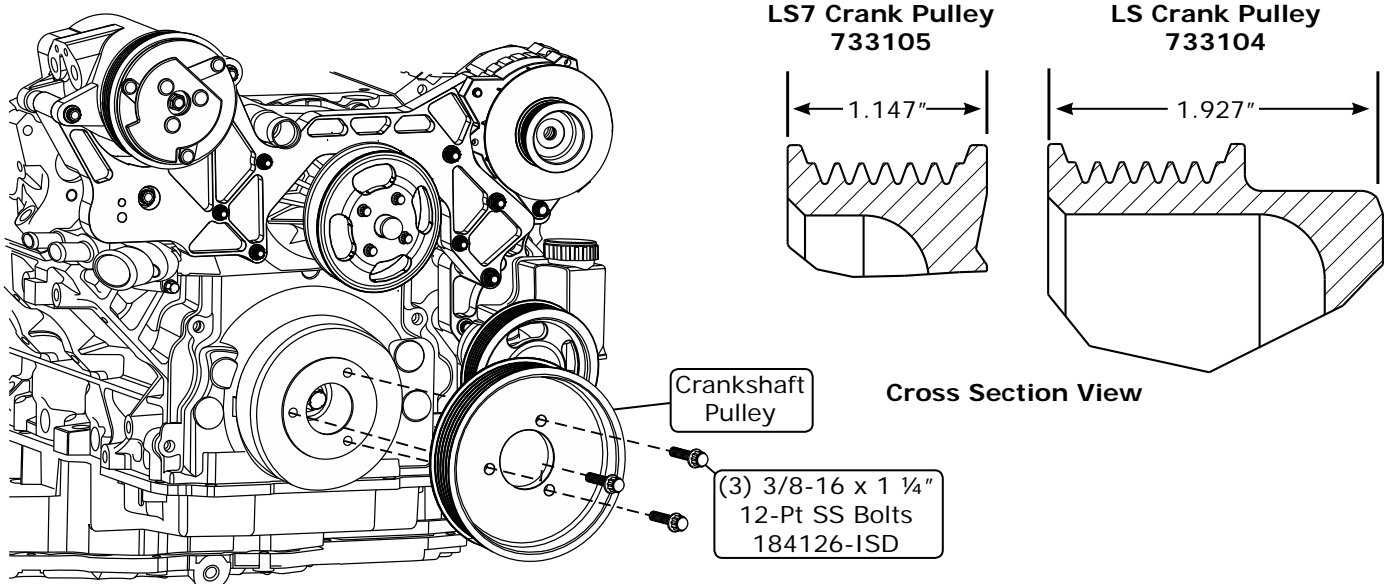

Figure 10
1. Install the crankshaft pulley onto the damper using (3) 3/8-16 x 1 1/4" bolts as shown in Figure 10, below. Torque to 25 lb ft.